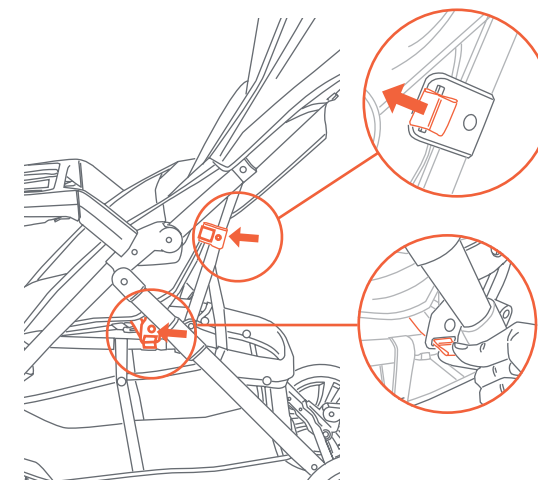

Fig. 9a
**If received unattached, follow below instructions to attach:** Feed the rear recline clip and the seat fabric through the appropriate bracket and slots on the stroller frame sides (Fig. 9a).